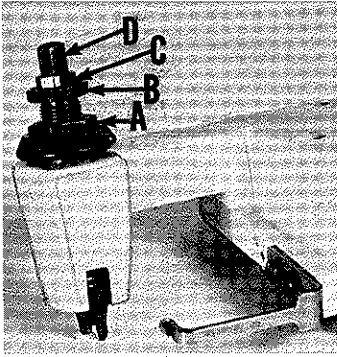

Fig. 2
Sufficient presser foot pressure to feed work uniformly should be maintained. Should it be necessary to increase or decrease amount of pressure on presser foot, loosen lock nut (A, Fig. 2) and turn adjusting screw (B). Adjusting screw has a right hand thread so tightening increases pressure, loosening decreases pressure. When pressure adjusting screw (B) has been properly set, tighten lock nut (A). With presser foot resting on throat plate, position